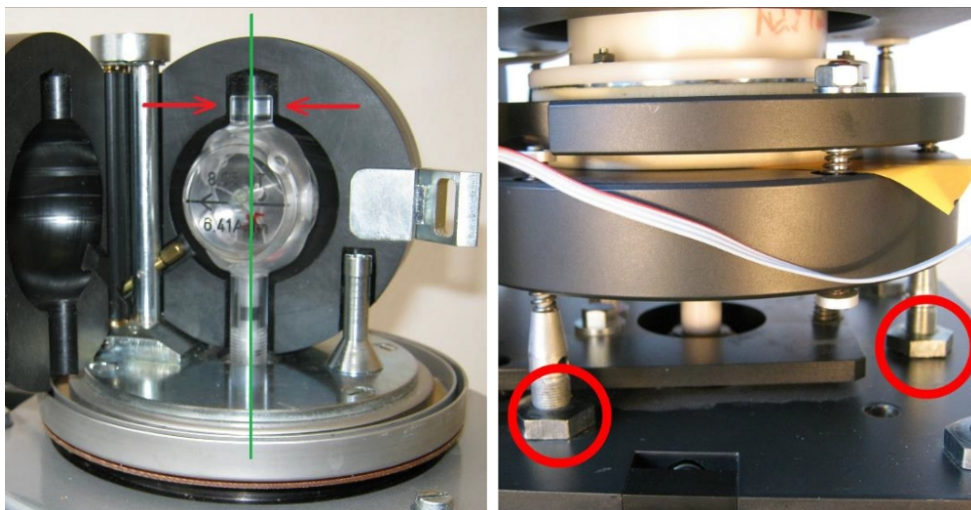

Figure 20: Setting the vertical holder position
- Check the axis of specimen holder, marked by the green line in Fig. 20. Top part of holder must be in the middle of space marked by the red arrows.
- If not, locate three screws between base plate and round plates, marked by red circles in Fig. 20 (only two are marked). Loosen the nuts and then turn with the screws to adjust proper position of the holder.